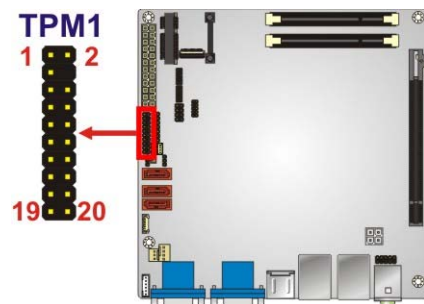

Figure 3-22: TPM Connector Location
- CN Location:** See **Figure 3-22**